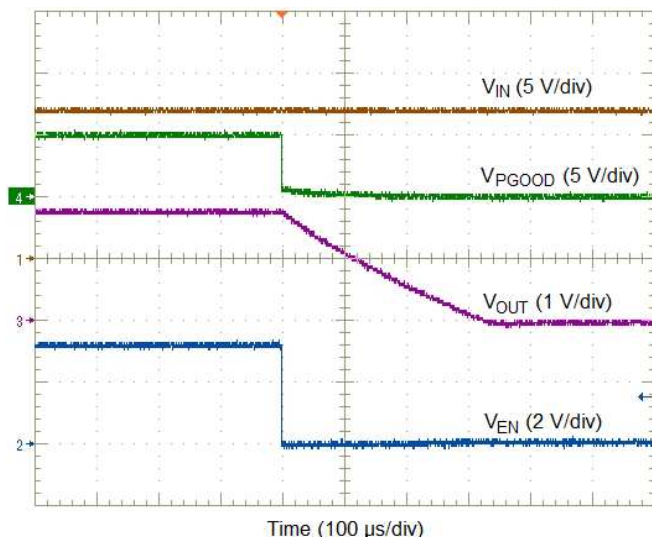
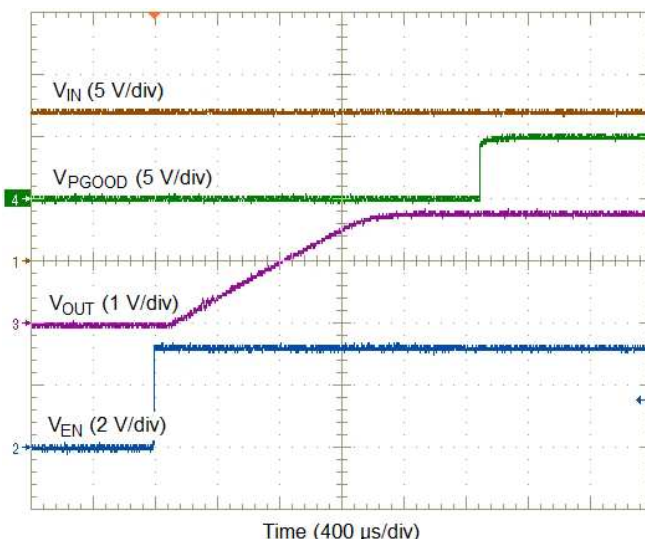

Figure 12. Enable Turnoff
Figure 13. Enable Turnon
If an application requires controlling the EN pin, either drive it directly with a logic input or use an open drain/collector device to interface with the pin. Applying a low voltage to the enable control (EN) pin disables the output of the supply, shown in Figure 12. When the EN pin voltage exceeds the threshold voltage, the supply executes a soft-start power-up sequence, as shown in Figure 13.